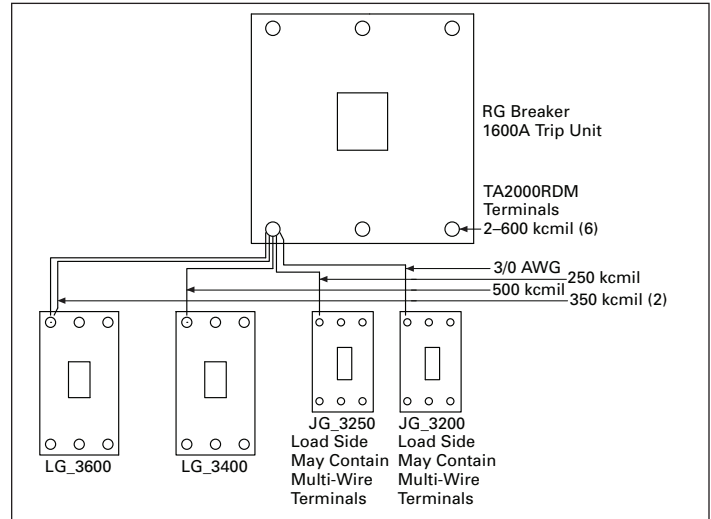

**Figure 2. Taps Not Permitted**
It is important to understand mis-application of the tap rule to avoid design and field errors. **Figure 1** and **Figure 2** illustrate a tap not permitted by the NEC or UL 508A.
**Figure 2** illustrates the example in **Figure 1** taken to the extreme. In **Figure 2**, one sees that the 4/0 conductor can now be overloaded by the addition of the JD3250 breaker. The total load that may be imposed on the 4/0 conductor can be 405 amperes, causing failure of the 4/0 conductor, while not tripping the 1200 ampere circuit breaker.